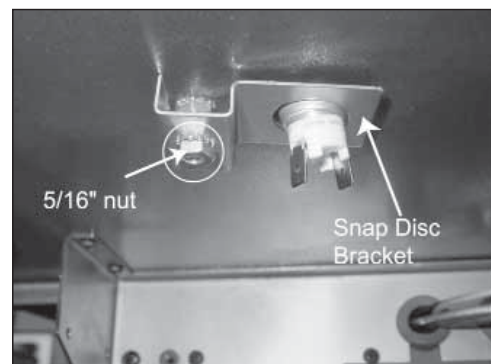

Figure 10
3. Install the snap disc in the bracket. Attach the bracket to the firebox with a 5/16" wrench. **Figure 10.**